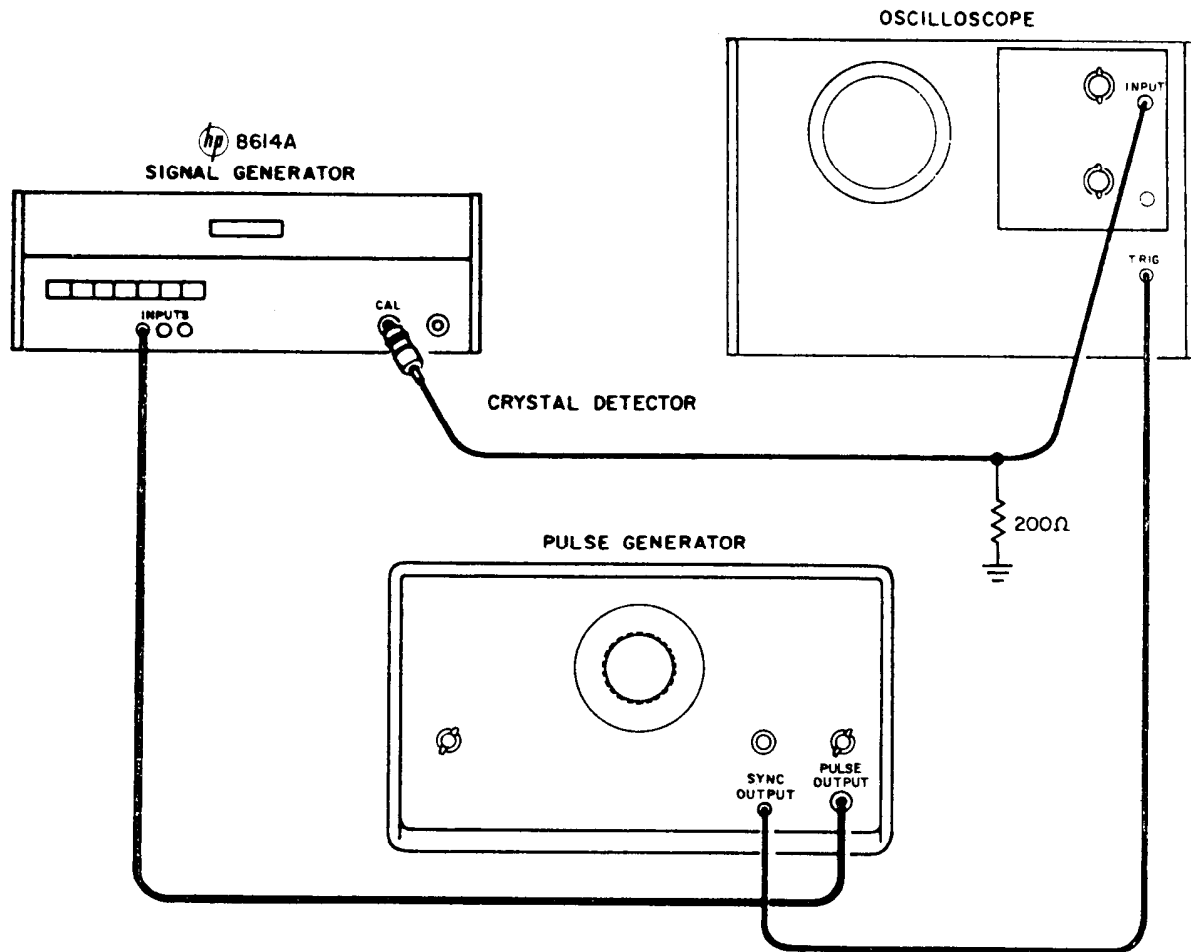

Figure 5-2. External Pulse Check (P/O Errata)
* Page 5-2, Figure 5-2:
Replace Figure with attached Figure 5-2.